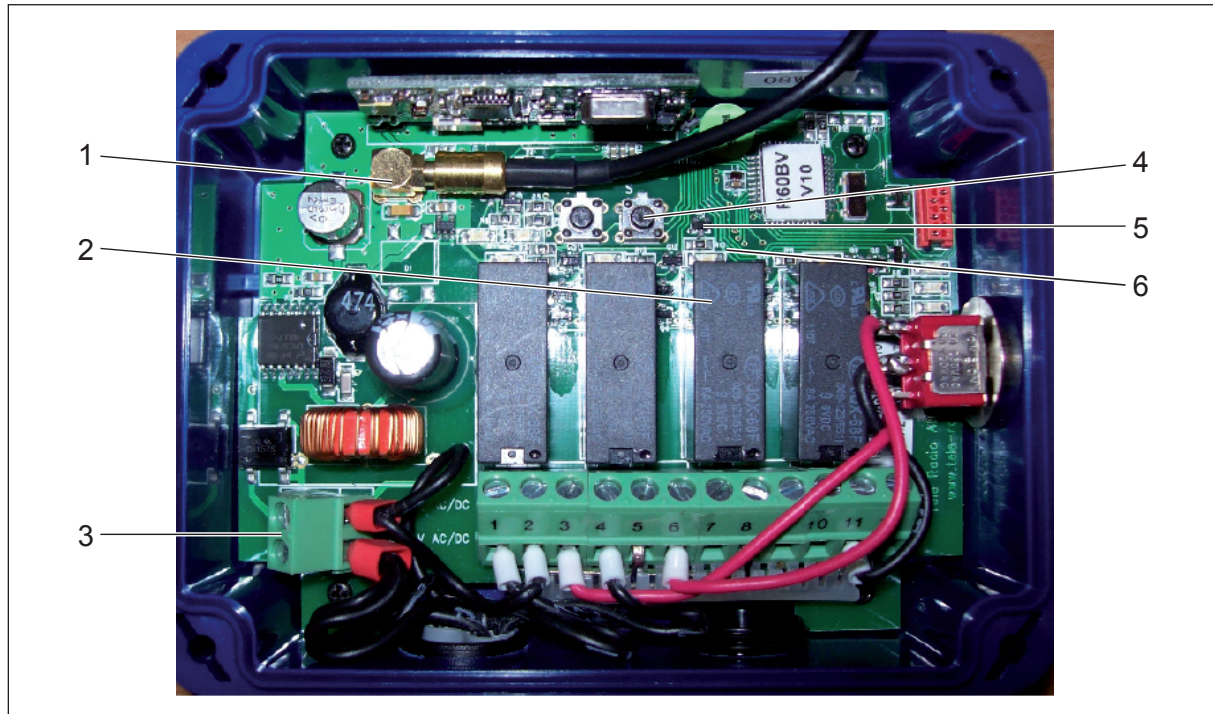

Figure 7.28 - Transmitter Printed Circuit Board
3. Carefully let the lid hang below the main box as the antenna is attached to the lid, exposing the Printed Circuit Board as shown in Figure 7.28.
5. Press and hold the Transmitter Program Button on the RTG Receiver Printed Circuit Board as shown in Figure 7.28, for two seconds.